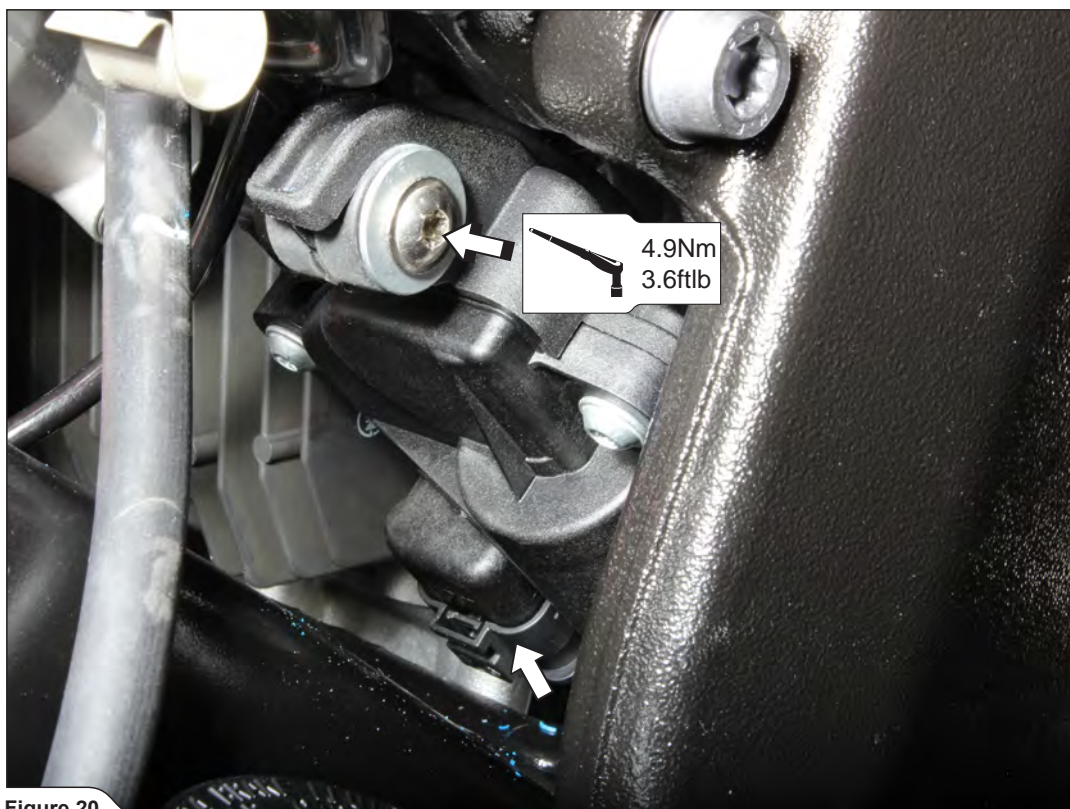

Figure 20
14. Reconnect and reinstall the servo motor (Figure 20). Assemble the rear brake reservoir's bracket and reservoir in the reverse order from the order in which they were removed; check vehicle manufacturer manual for tightening torques.